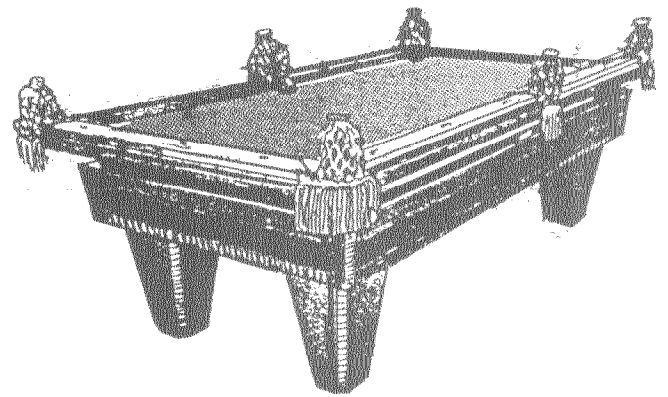

Fig. 9
16. Place all six (6) rails upside down on top of table in their respective locations. (The end rail with nameplate goes at head end of table). Figure 9.
17. Insert pocket irons into holes through end of rails (Figure 9).